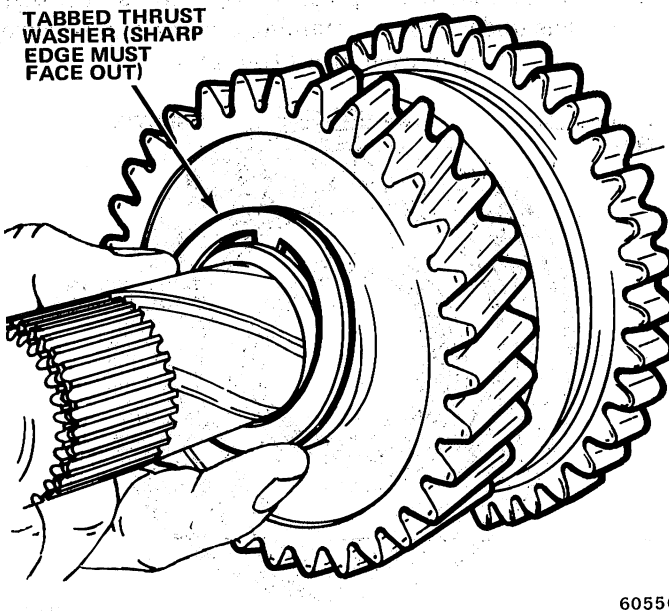

Fig. 2B-65 Tabbed Thrust Washer Installation
- (19) Assemble third-fourth synchronizer (fig. 2B-60).